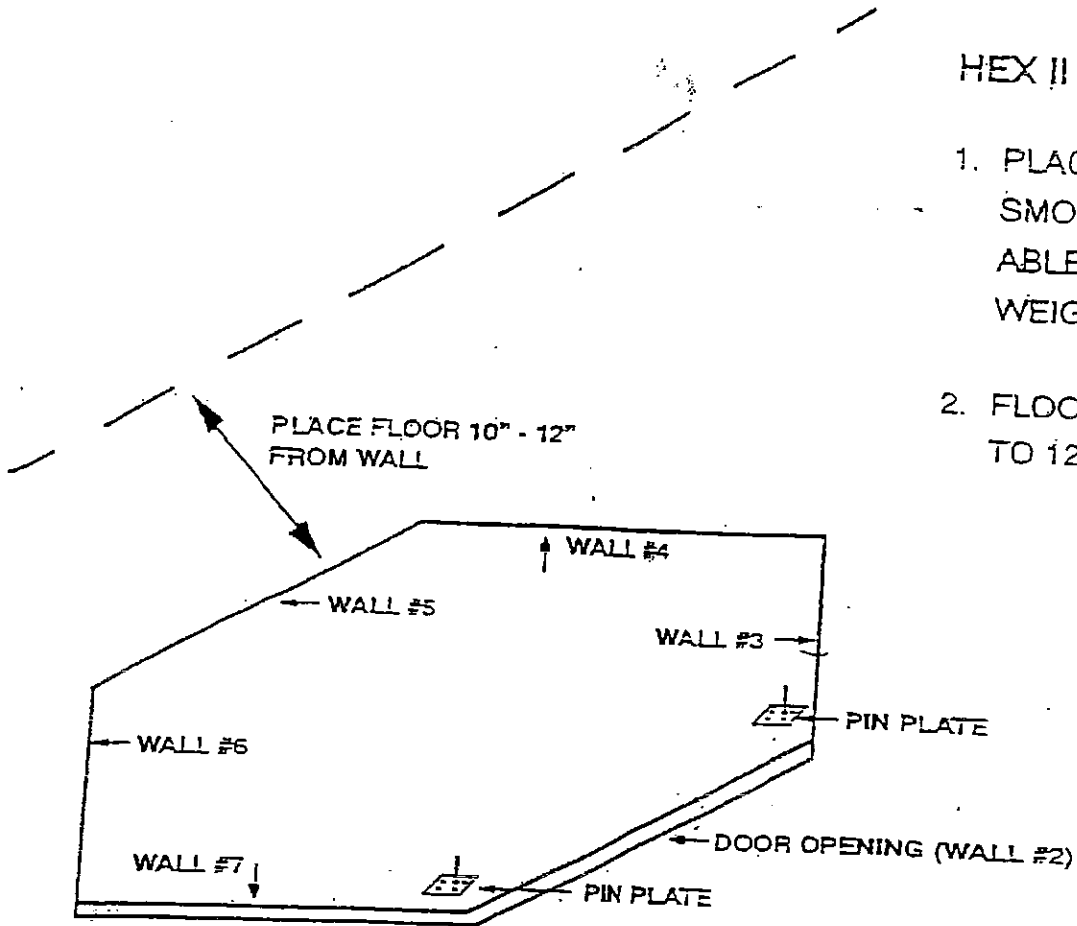

Figure 2
3. Set door-wall panel in place. Screw together with 3 3/4" screws (from accessory bag) through (5) pre-drilled holes. (Figure 2)
(FIGURE 2)